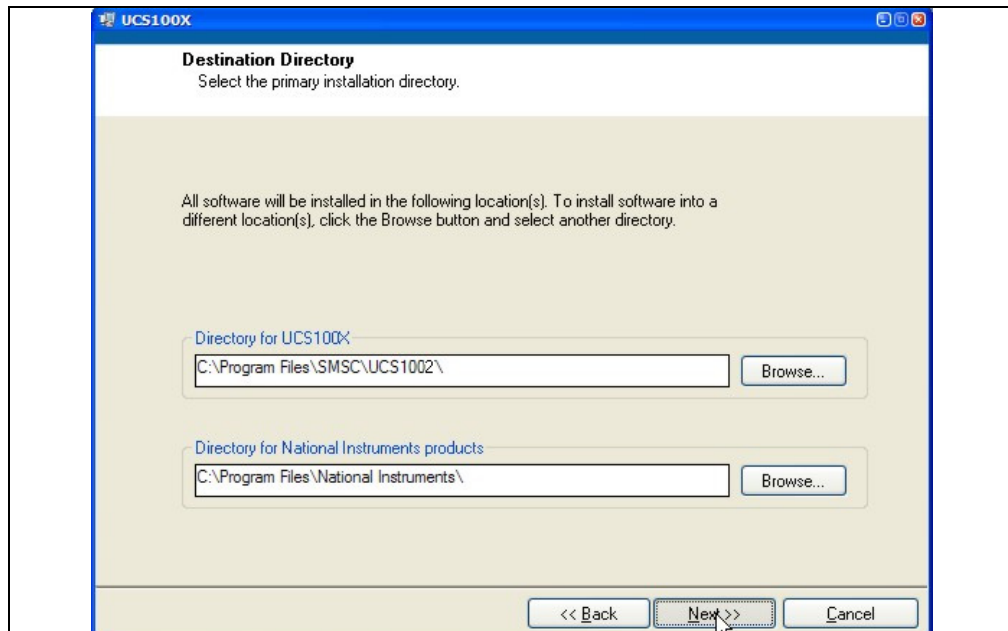

FIGURE 2-7: Software Installation – Setting the Destination Directory.
2. Click **Next** in the Destination Directory window, as shown in Figure 2-7. For proper operation, the files must be installed in the default locations. The default location for the software files is `C:\Program Files\SMSC\UCS1002\`, while the default for the LabVIEW software is `C:\Program Files\National Instruments\`.